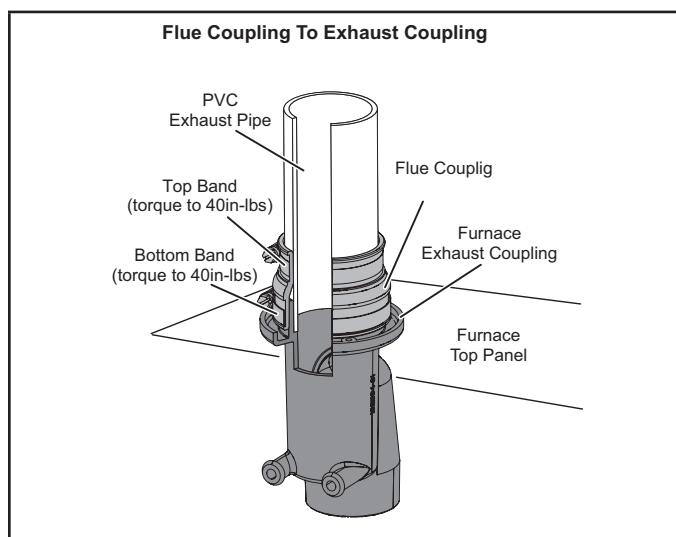

FIGURE 25
Exhaust Piping (FIGURE 25, FIGURE 26 and FIGURE 27)
Use provided bands. See steps below and FIGURE 25.
- 3 - Insert PVC exhaust pipe through flue coupling. Ensure vent pipe is fully seated into exhaust coupling. Tighten both top and bottom bands to 40 in lbs. See FIGURE 25.